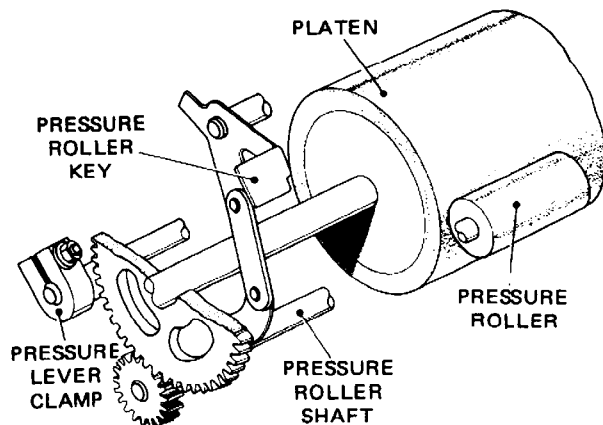

Fig. 4.13 PRESSURE ROLLER MECHANISM
- 15.1 Lift the pressure roller key, Fig. 4.13, and check that the pressure roller moves away from the platen by 0.030–0.050 inch (sufficient for the insertion of ten thicknesses of paper).